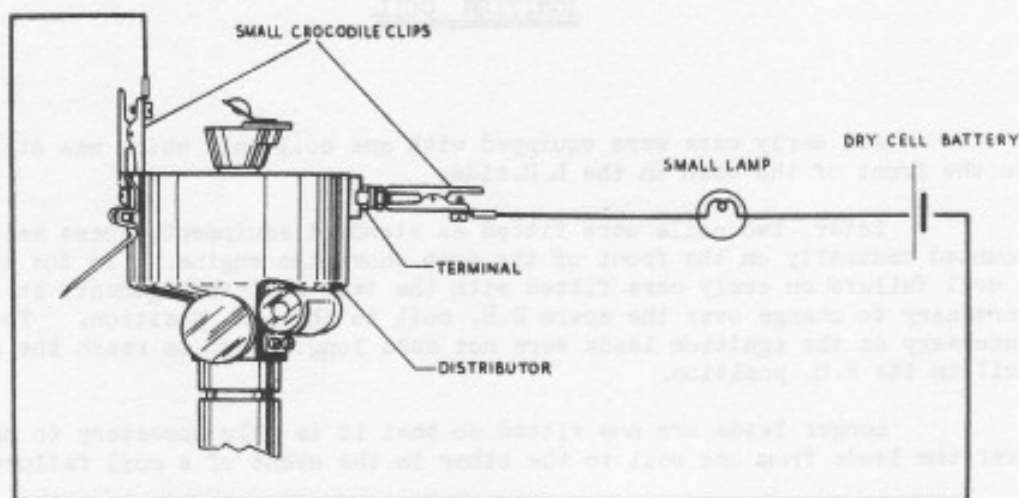

FIG. 29. BULB AND BATTERY CONNECTED IN SERIES WITH BREAKER POINTS.
- (a) With the ignition switched off, and a small bulb and battery connected in series with the contact breaker points, as shown in Fig. 29. In this case the bulb will go out as the contact points "break" and will light as the points "make".